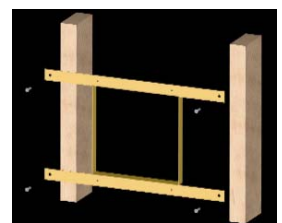

Figure 3
- B. Mount the pre-construction bracket (see **Figure 3**) to the studs with drywall screws, with the flanges on the frame pointed out toward the drywall. Keep the bracket level to assure proper appearance when installation is complete.